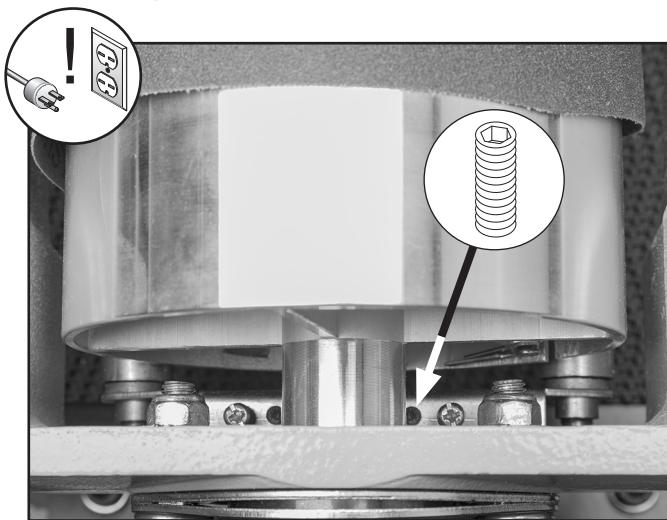

Figure 67. Pressure roller adjustment set screw.
- At each end of pressure roller that requires adjustment, tighten set shown in **Figure 67** an equal amount.